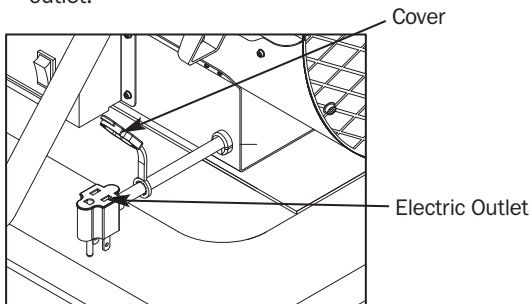

Figure 11 – Piggyback Power Cord
- Always cover electrical outlet when not in use. See Figure 11.